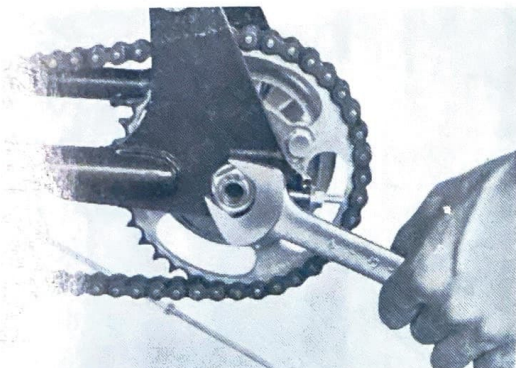

Fig. 4-2-8
- e. Pull out the special hexagon nut and remove the rear clutch ass'y (Figs. 4-2-8 and 9)